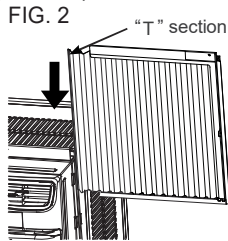

FIG. 2
- B. Slide the free end "T" section of the panel directly into the cabinet as shown in FIG. 2. Slide the panel down. Be sure to leave enough space to slip the top and bottom of the frame into the rails on the cabinet.